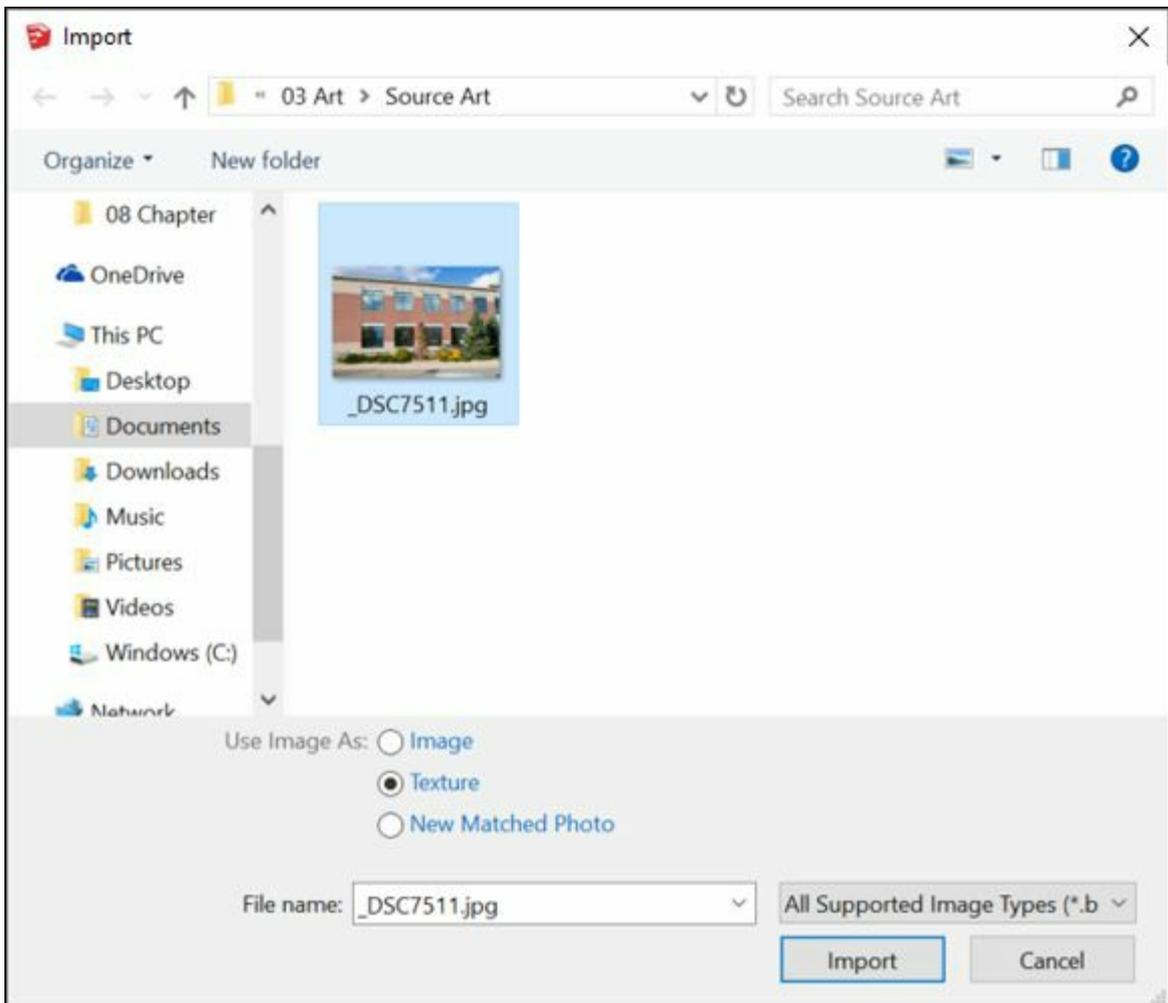

FIGURE 8-1: Tell SketchUp you want to use the image as a texture.
- 3. In the Use Image As area, select the Texture option, as shown in Figure 8-1.**